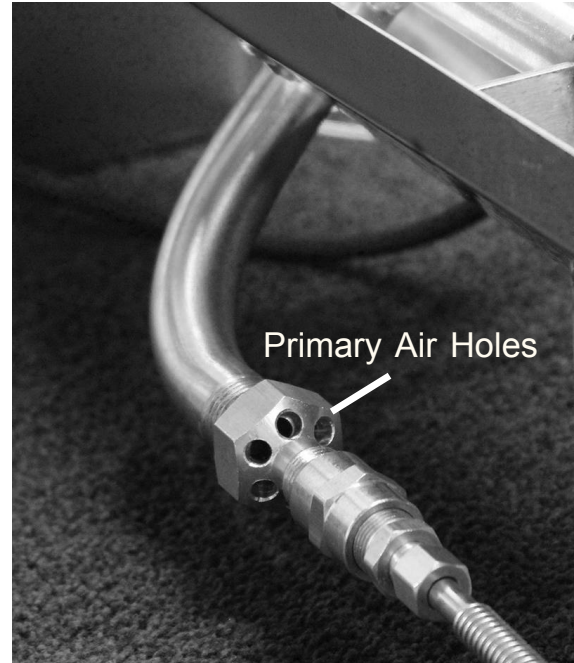

Figure 10 - Air Mixer/Injector on BurnerTube (propane models only)
3. Blow air into the primary air holes on the injector (see Figure 10).